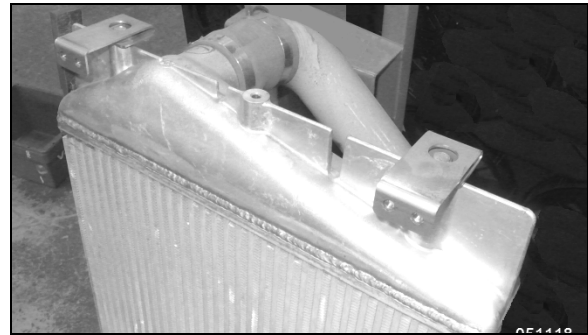

FIGURE 51: CAC UPPER BRACKETS & PIPE
- If a new CAC is to be installed, transfer the upper CAC pipe and upper brackets to the new unit. Torque upper brackets with plastic bushings & washers to specified torque (Figure 51). Also reinstall the lower CAC pipe if it was previously removed with the CAC unit.